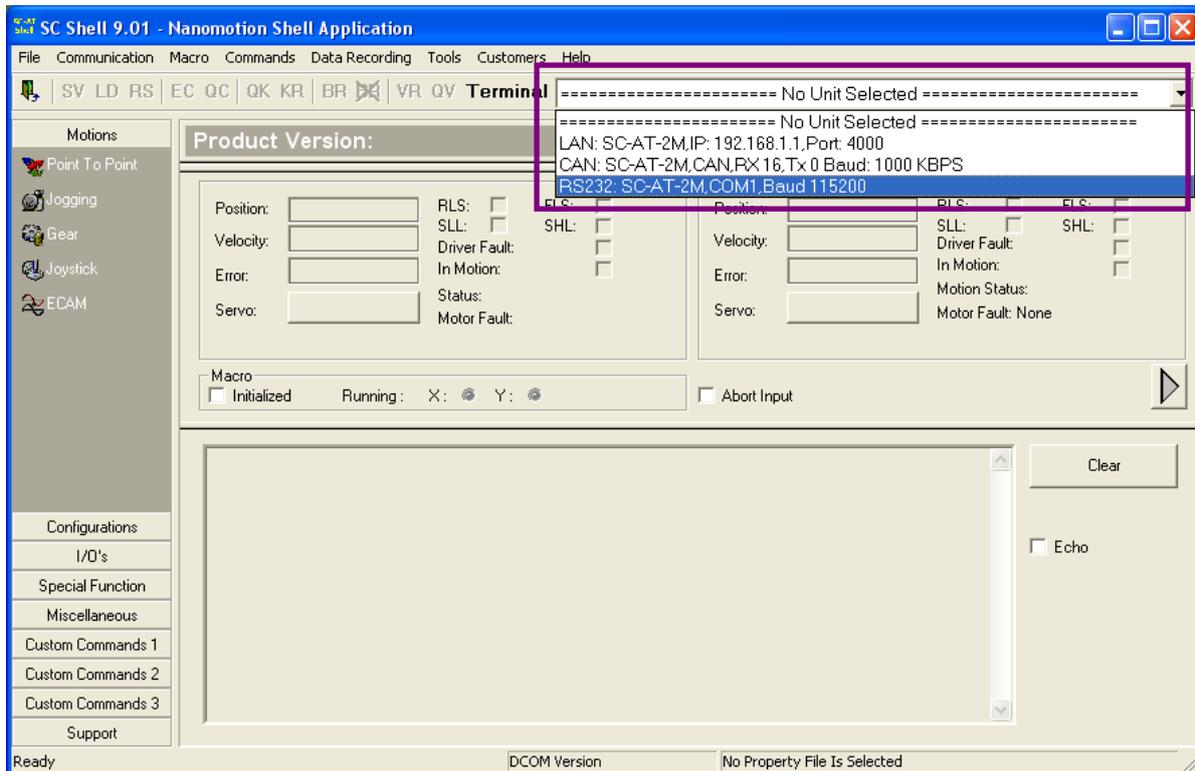

Figure 4: Choosing the Communication Type in the Connection Drop-Down List
10. In the Connection drop-down list, select the type of communication connection, defined in the previous step (see Figure 4).